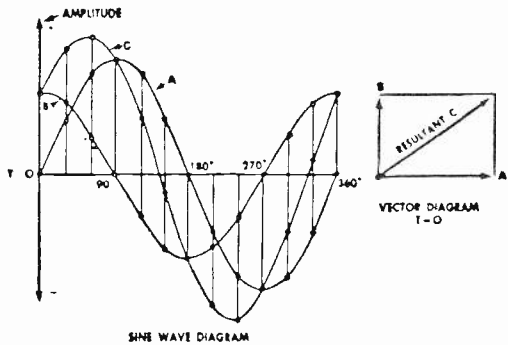

Fig. 4
Fig. 4 shows the addition of two sine waves (A and B) whose amplitudes are unequal. The resultant wave (C) is obtained by the same point-by-point addition of the two